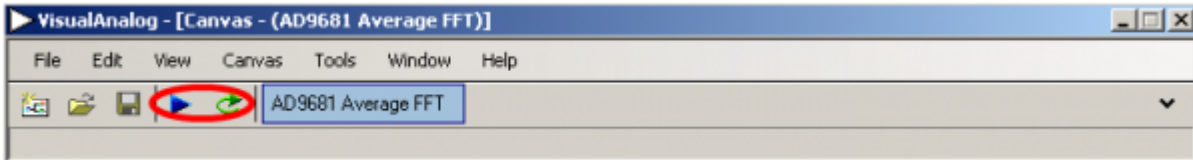

Figure 12.
6. To begin testing, click the **Run** or **Continuous Run** button in the **VisualAnalog** toolbar (see Figure 12).
If the FFT window remains blank after **Run** in VisualAnalog (see Figure 12) is clicked, do the following: